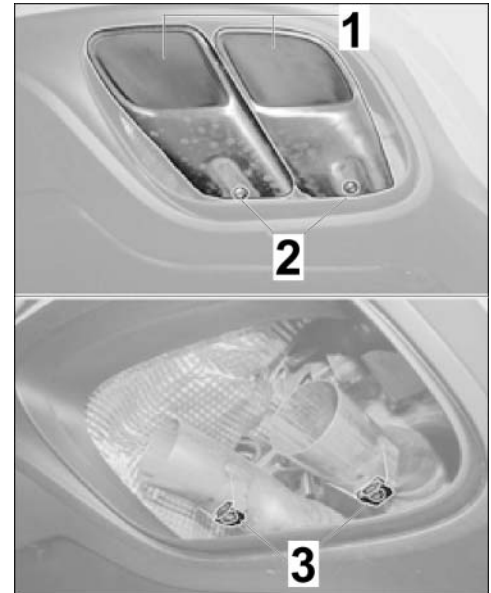

Figure 5 (Panamera Turbo)
- 1.3 Remove standard tailpipes (⇒ *Figure 5 (Panamera Turbo)*). ⇒ *Workshop Manual '263519 Removing and installing tailpipe cover'*